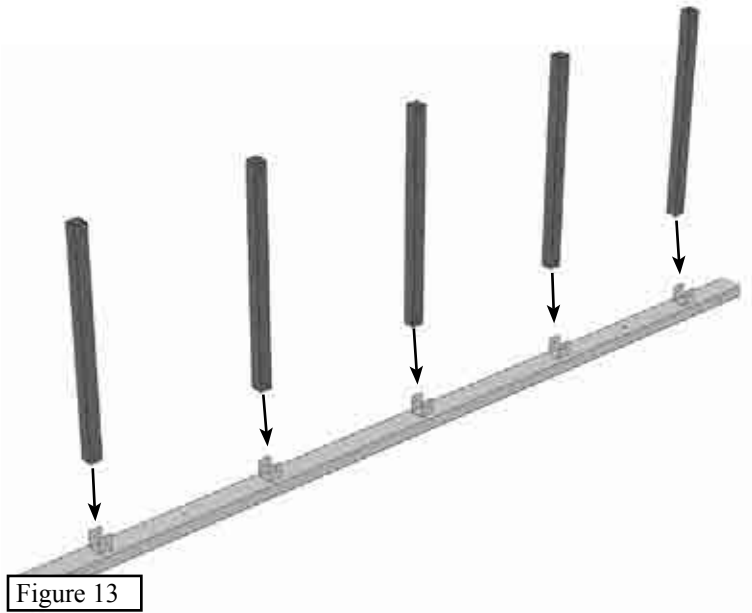

Figure 13
Step 4. Arrange one lower ladder support column and five ladder rungs as shown in **Figure 13**. Use five 1 3/4" bolts with lock nuts to secure the rungs to the support column. Hand Tighten these five bolts.